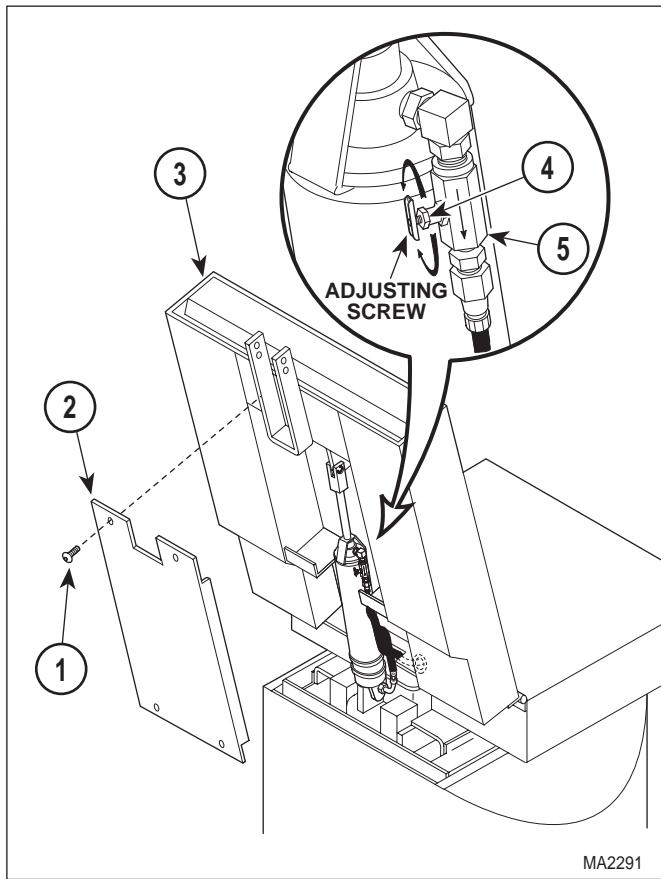

Figure 4-14. Back Cylinder Needle Valve Adjustment
(1) Remove four screws (1, Figure 4-14) and back cover (2) from back weldment (3).